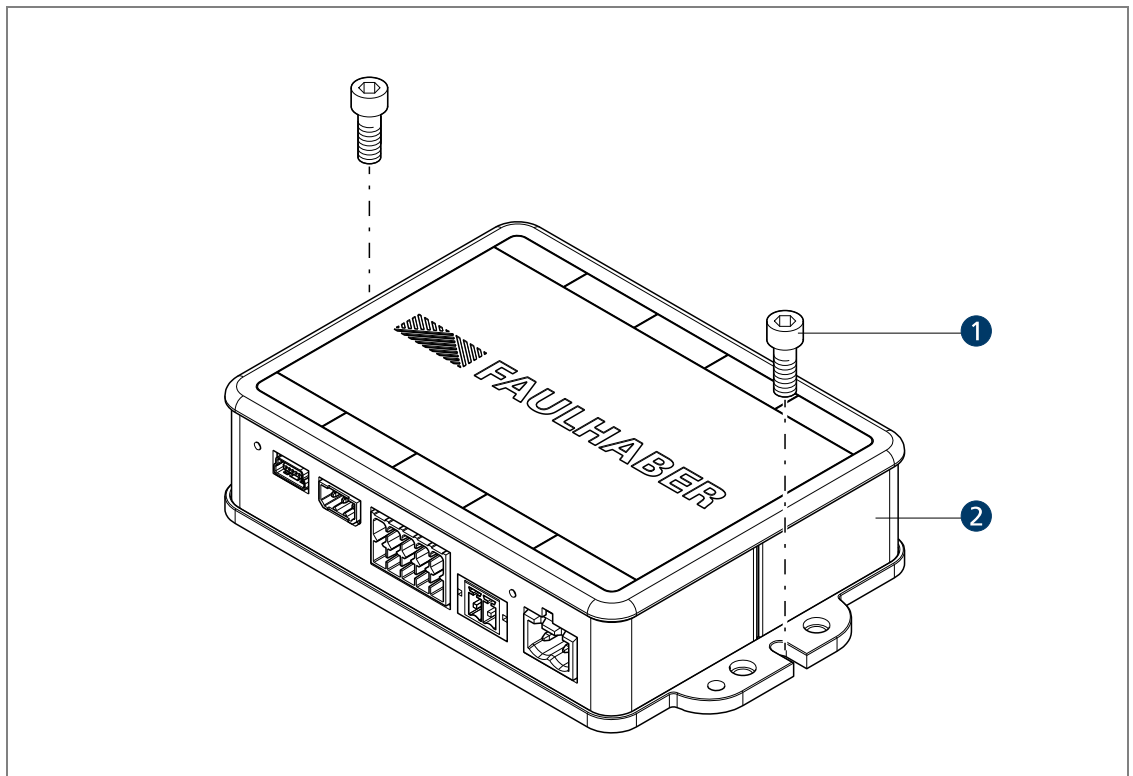

Fig. 6: Installation via the side plates
- ▶ Attach the Motion Controller (2) to the mounting plate with screws (1) as described in Fig. 6, p. 18.